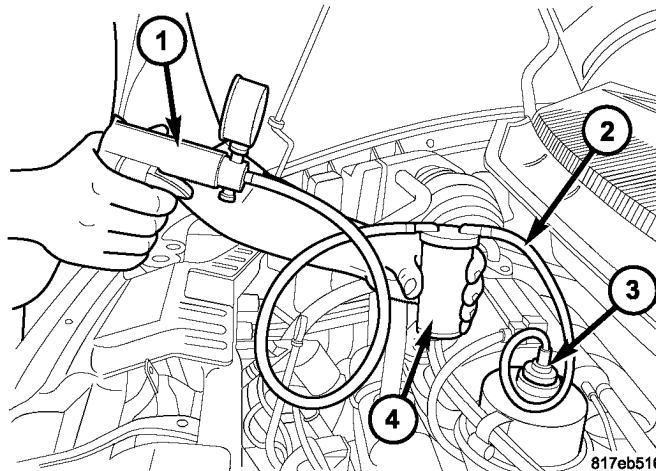

Fig. 1 VACUUM PUMP
2. Tightly insert Miller Special Tool, 9688 - P/S Cap Adapter, onto the pump reservoir (Fig. 1).